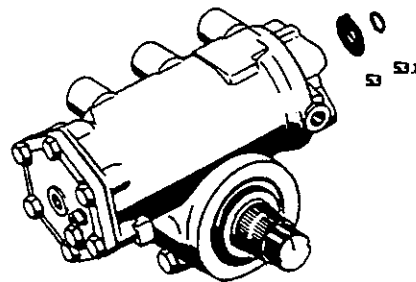

Fig.56
Slip protecting cap (53) onto the worm stub and fit retaining ring (53.1) (Fig.56).
19.3 Fit dust seal (314)